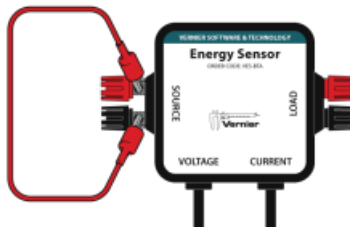

Figure 3
- a. Connect the Energy Sensor Source terminals to each other with a wire lead, as shown in Figure 3. **Note:** The color of the wire lead is not important; any color will work.